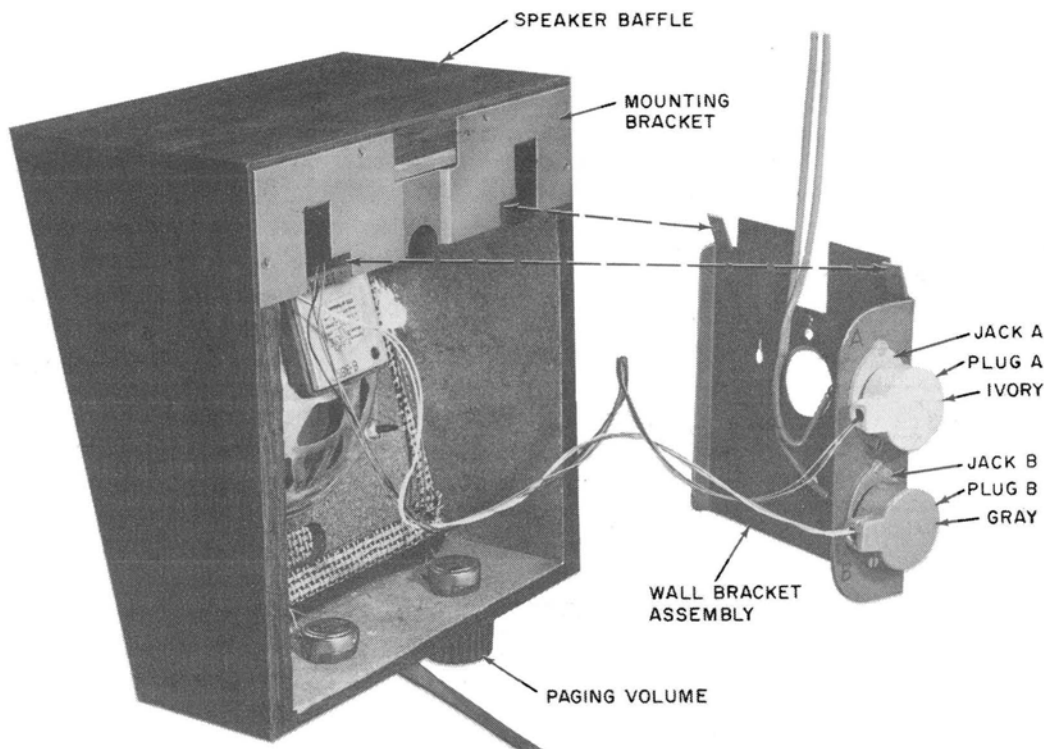

Fig. 23—109A Loudspeaker Set With Wall Bracket Assembly
(1) Mount the wall bracket assembly (Fig. 23 and 24) at the desired location. This assembly is mounted directly to a flat surface or an outlet box. Use appropriate fasteners per BSP 080-720-105.
- (1) Connect +V, COM, and DSS to jack A (ivory) of the wall bracket assembly (Fig. 23) per Table F.
- (2) If music is provided, connect terminals 5 and 6 of the 33A voice coupler to terminals R and G of jack B (gray) of the wall bracket assembly (Fig. 23) using inside wire.
- (3) Connect plug A of loudspeaker into jack A of wall bracket assembly and plug B into jack B, ivory to ivory and gray to gray, respectively (Fig. 23).
- (4) Slip the speaker baffle mounting bracket over the mounting clips on the wall bracket assembly and pull the speaker down until it is firmly held (Fig. 23).